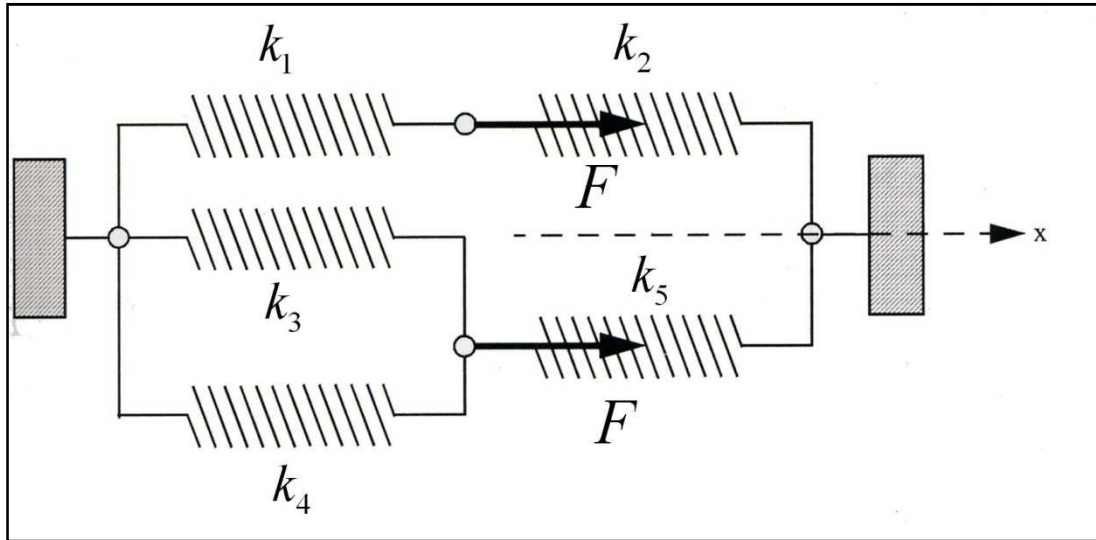

Figure 1 : Assembling of 5 springs
Five (5) springs are assembling together as indicated in figure 1.